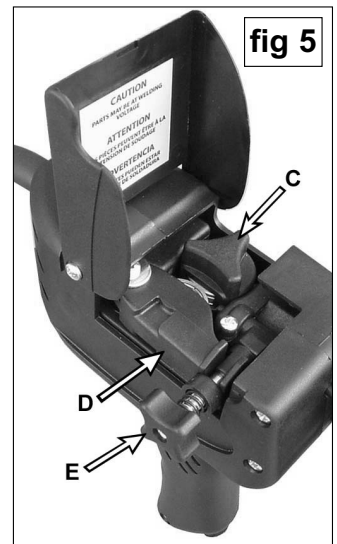

fig 5
- 3.6. Open the hinged wire feed cover on the top of the gun body (see fig.5). Reduce the tension on the pressure roller bracket (D) by partially unscrewing the tension knob (E) anticlockwise and slide the retaining arm out of the bracket and into the vertical position (see 1 in fig.2). Hinge the pressure roller bracket out sideways (see 2 in fig.2) to reveal the grooved feed roller (A).
- 3.13. Check that the wire is properly seated in its groove in the feed roller and then swing the counter roller bracket inwards to make contact with the wire (see D in fig.5).
- 3.14. Swing the wire tension retaining arm downwards and back into the 'U' shaped slot in the counter roller bracket. Turn the wire tension knob clockwise by about 4 turns to apply medium pressure/tension (see E in fig.5)
- 3.21. Tension between rollers is checked by slowing down the wire between your fingers. If top feed roller skids the tension is correct. Use as low a tension as possible, too high a tension will deform wire and result in a blown fuse on the printed circuit board. Adjust tension by turning knob 'E' (see fig.5).